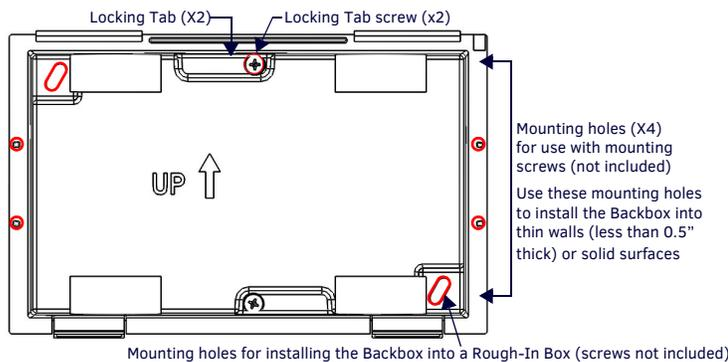

FIG. 2 7" MODERO S BACKBOX (FRONT VIEW)
The MSD-701-L2 comes with a clear plastic Backbox (FIG. 2). This Backbox can be used to mount the touch panel into most standard wall materials. The Backbox can also be used to mount the panel into other mounting options.
- To ensure a stable installation, the thickness of the wall material must be a minimum of .50 inches (1.27cm) and a maximum of .875 inches (2.22cm). The mounting surface should also be smooth and flat. For thin walls or solid surfaces, use mounting screws (not included) - see FIG. 2.